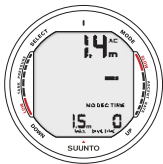

Fig. 6.1. Dive has just begun and available no-decompression time is over 99min.
**NOTE!** The dive computer will remain in the Surface mode at depths less than 1.2 m [4 feet]. At depths greater than 1.2 m the instrument will go into the Diving mode (Fig. 6.1.).